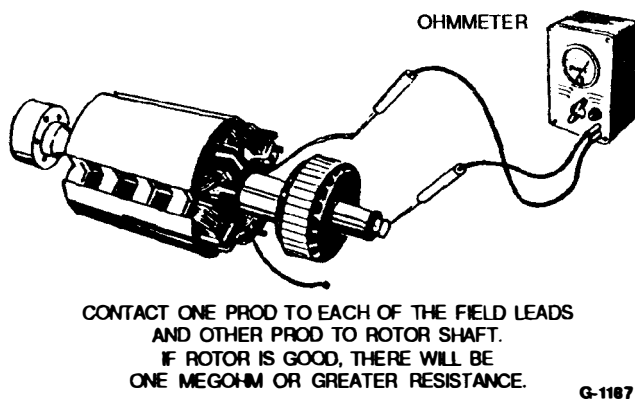

FIGURE 5-14. TESTING GENERATOR ROTOR FOR GROUNDS
2. Measure between either lead and the rotor shaft, Figure 5-14.